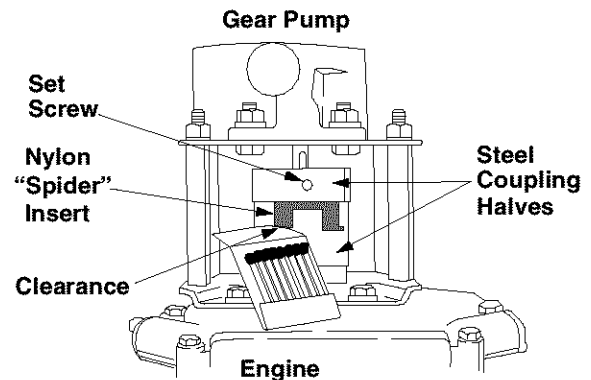

Figure 16
- Set .010" to .060" clearance between the nylon "spider" and the engine coupling half by sliding a matchbook cover between the nylon "spider" and the engine coupling half and moving pump coupling half as needed. Secure pump coupling half with set screw. See Figure 16.